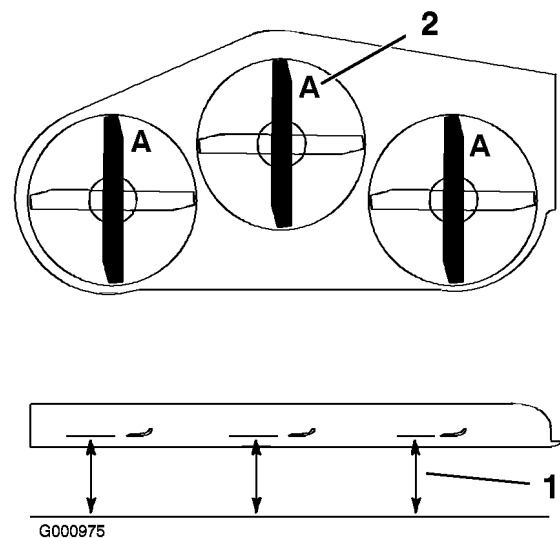

Figure 64
3. Rotate the blades until the ends face forward and backward (Figure 64). Measure from a level surface to the cutting edge, position A, of the blades (Figure 64). Note this dimension.